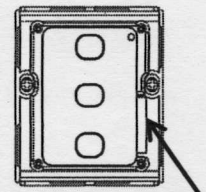

Figure 4
4. You need to replace the battery, when the red light is dark or flash (Fig.4)